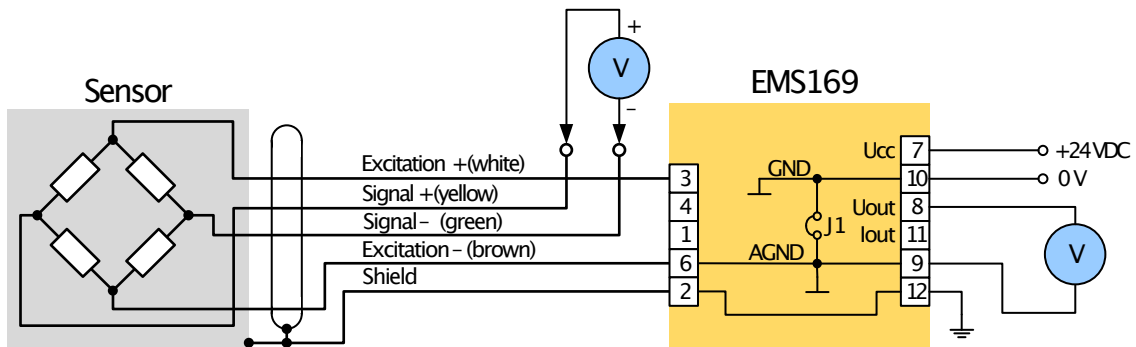

Fig. 11. Sensor output voltage measuring
6. **Sensor overload.** Overload of the sensor is a frequent failure and it is characterized by an increase in output voltage of the unloaded sensor. The output voltage can be measured in the circuit shown in fig. 11.